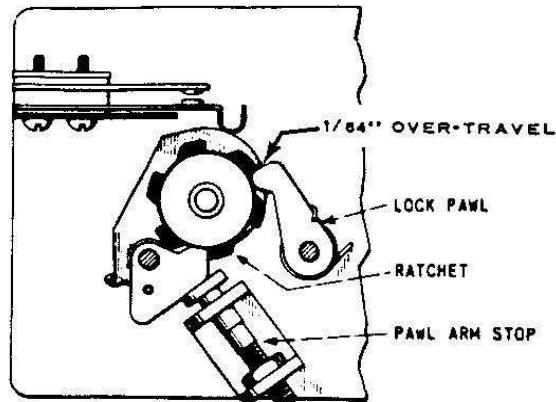

Figure 3.
1. The Pawl Arm Stop limits the rotation of the credit switch when the Cancel Solenoid plunger returns to normal rest position. It should be adjusted so the credit switch rotates far enough to allow the Lock Pawl to fall into the ratchet and have approximately  $1/64''$  overtravel. The adjustment must be checked at all six positions of the credit wheel and the ratchet. After adjustment, set the locknut tight. See Figure 3.